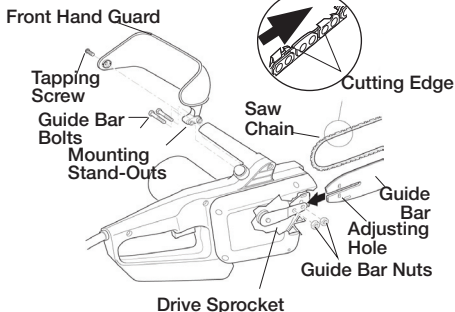

Figure 2 - Assembling Guide Bar, Chain, and Hand Guard
2. Install front hand guard onto saw body. Do this by pressing two mounting stand-outs on hand guard into hex-shaped holes in saw body (see Figure 2).
8. Place chain around drive sprocket, then along top groove of guide bar and around guide bar nose. Note: Make sure cutting edges of chain are facing the right direction. Position chain so cutting edges on top of guide bar face guide bar nose (see Figure 2).